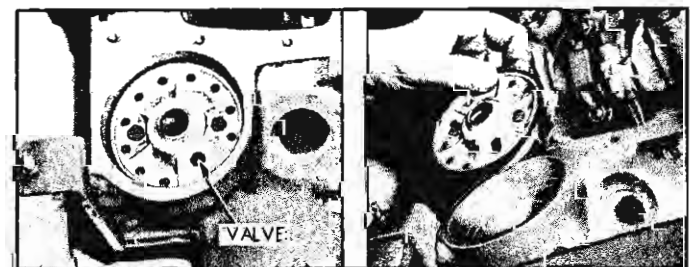

Fig. 155—Oil Filter Valve
4. Remove valve and seal (fig. 155).
NOTE: Valve assembly can be installed in two positions. Positioning valve away from engine as shown in Figure 155 is preferable for inspection from beneath the vehicle.